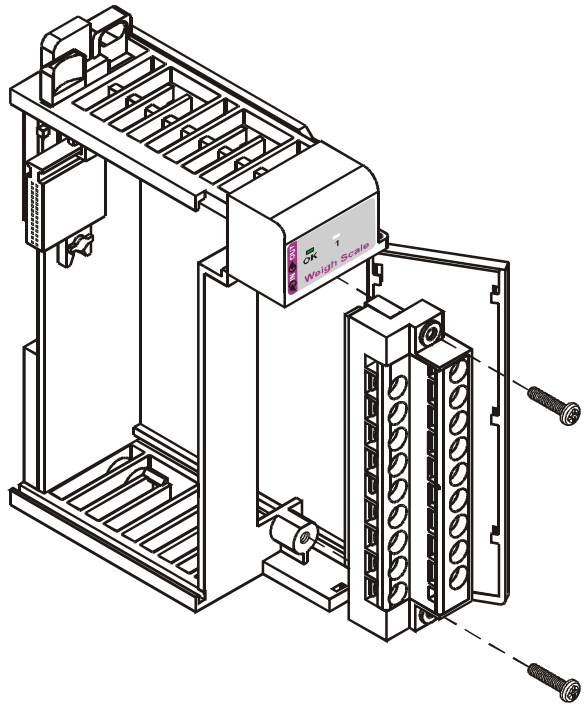

FIG. 3-5 MODULE CONNECTOR REMOVED FOR EASIER CABLING
- Step 2. To make the cable connections easier you can remove the connector from the module. To remove the connector, use a phillips screw driver and remove the two (2) phillips pan head screws that fasten the connector to the module. (See Fig. 3-5)